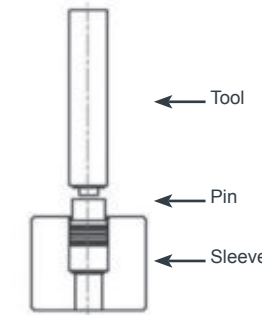

Fig. 2
- With the pin facing out, the KOENIG CHECK VALVE® is inserted in the counter-bored hole (Fig. 2). The top surface of the sleeve should not be above the top surface of the base material.